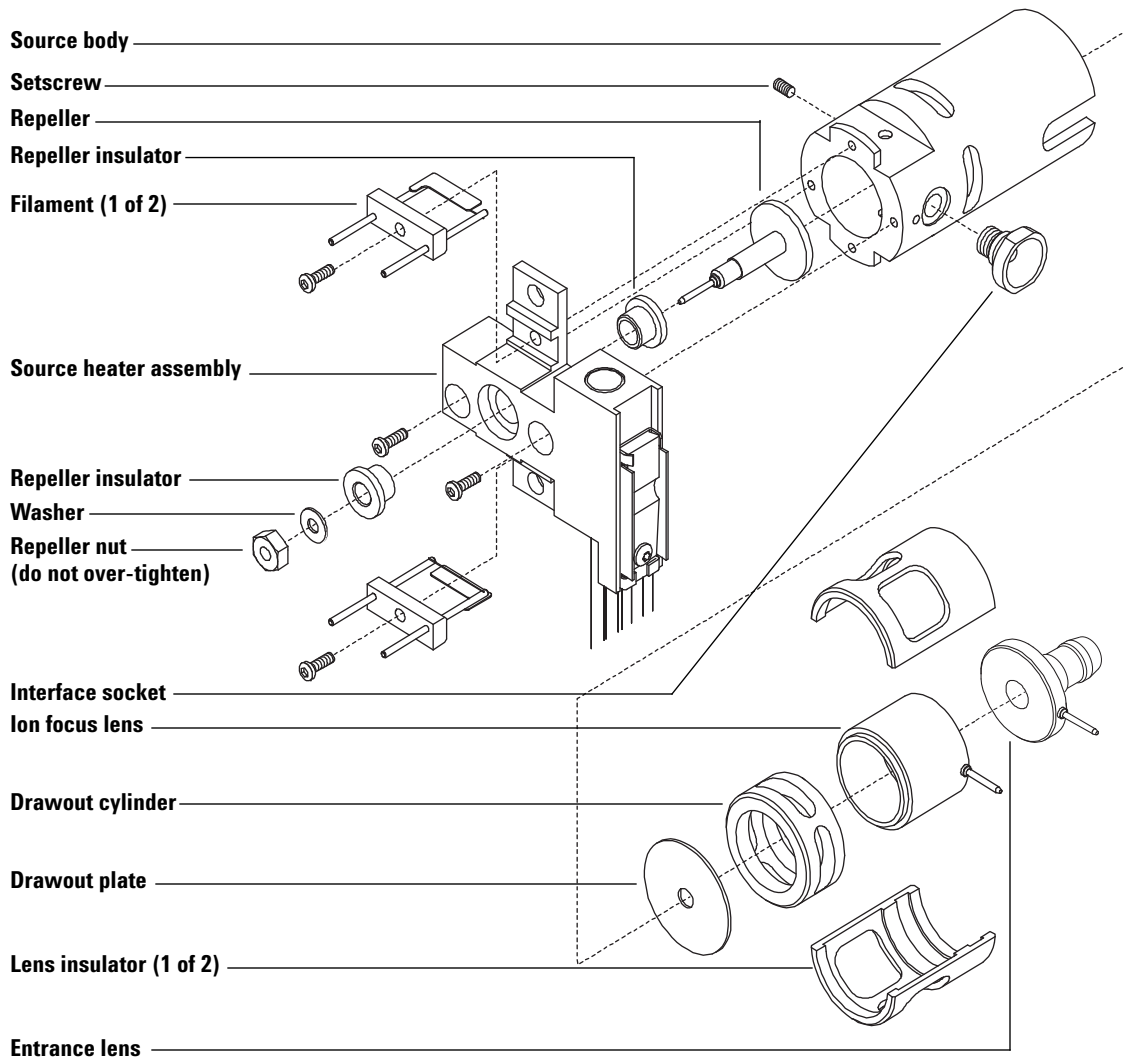

Figure 22 Assembling the ion source
- 1 Slide the drawout plate and the drawout cylinder into the source body (Figure 22).